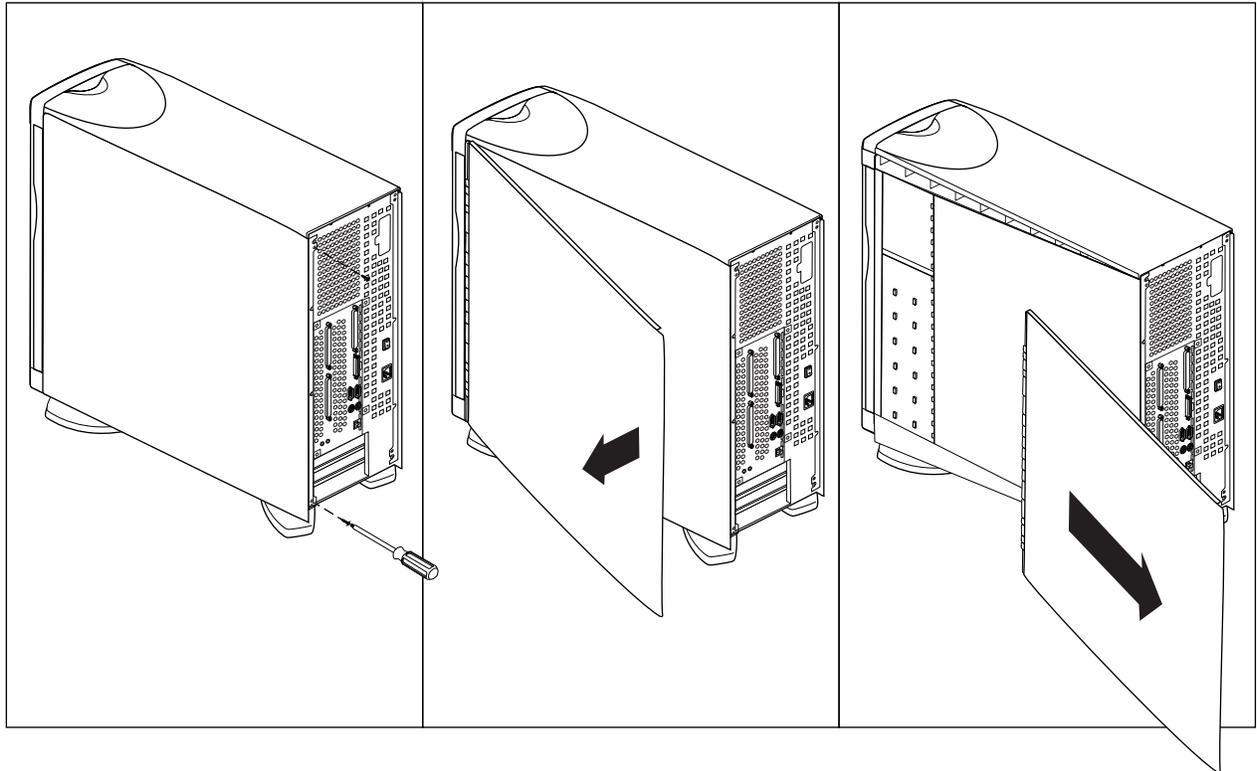

Figure 4-9 Removing the System Cover, Tower Origin200 System
2. Remove the system cover, as shown in Figure 4-9.